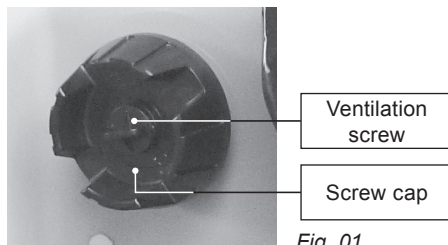

Fig. 01
8. Switch off pump. Close ventilation screw in screw cap (fig. 01).